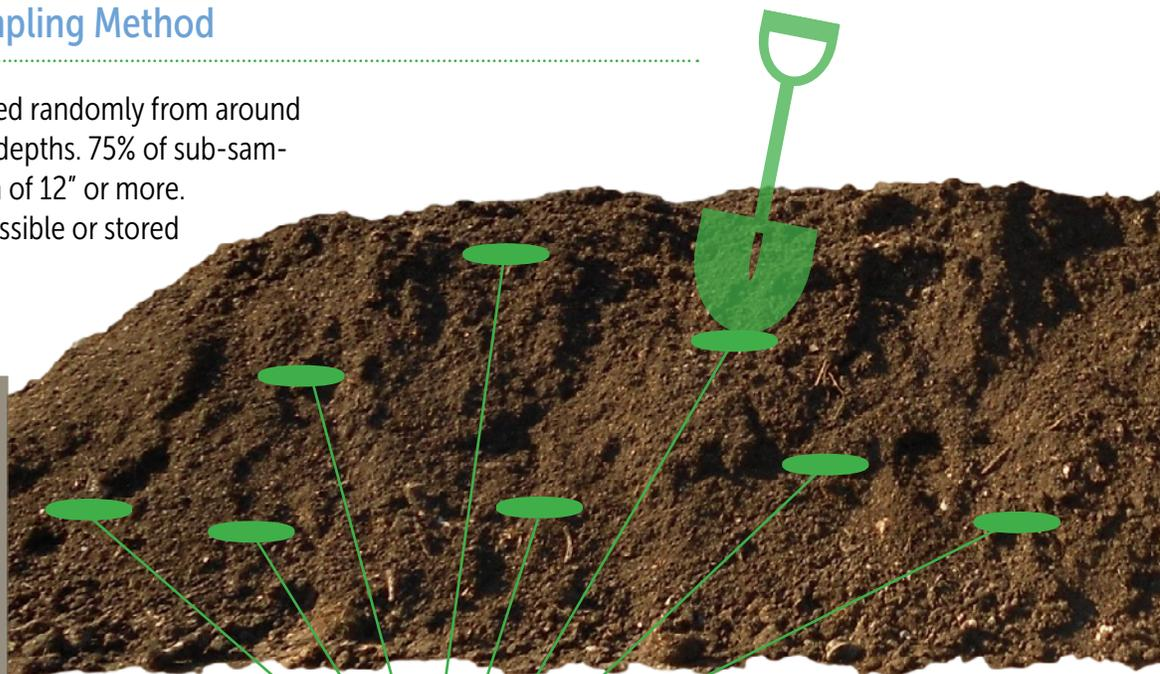

Figure 1. Feedstock Sampling Method
1. Take at least 16 sub-samples (one shovel-full) from around the pile, including all sides and at various depths. Approximately 75% of sub-samples should be obtained 12" in from the outer edge of the pile. See Figure 1 on page 2 for pile sampling process.